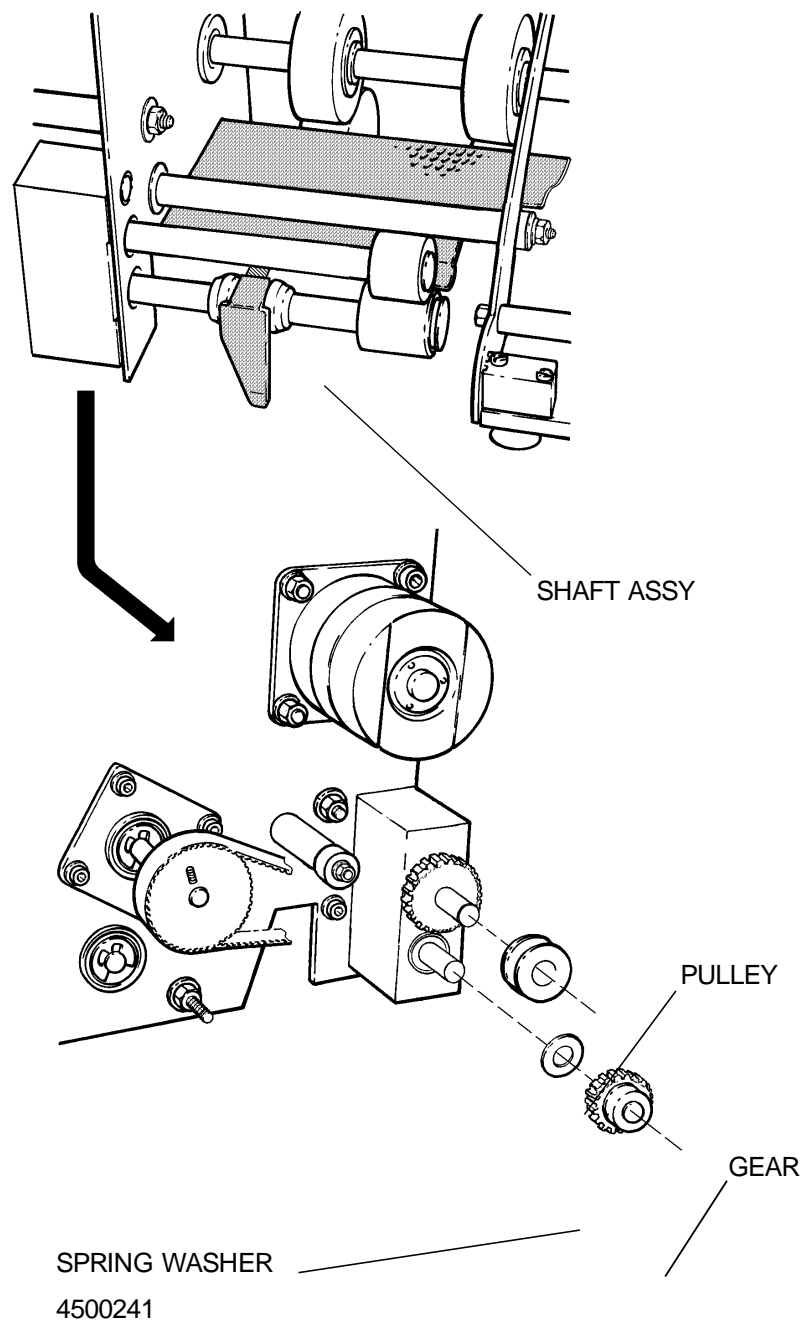

figure 4
12. Take out the SHAFT ASSY. See figure 4.